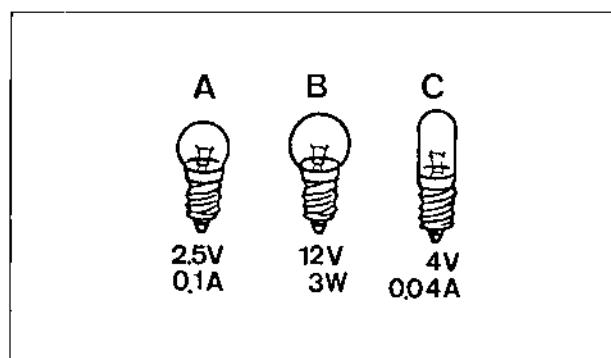

Fig. 2 Bulbs described in the experiments
2. Screw the type A bulb (► fig. 2) into the lamp holder.